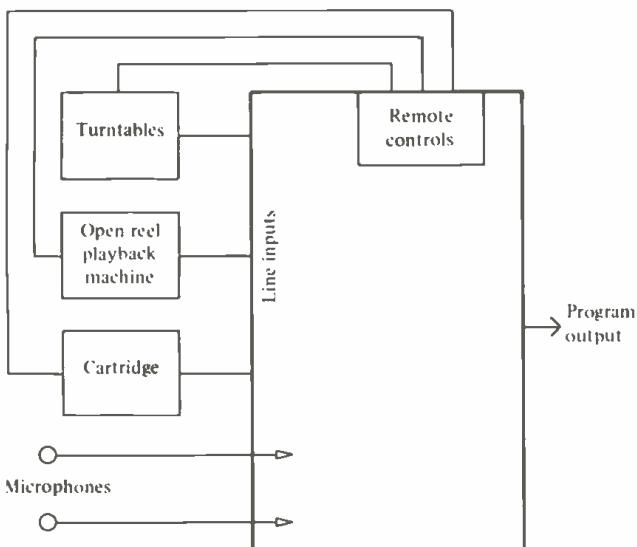

Figure 1. Block diagram of a typical manual operation.
In the manual operation, the console is basically a single-output summing amplifier. Remote start-and-stop controls are often a part of the console, as seen in FIGURE 1. Turntables, open reel playback machines, cartridge playback machines, and microphones feed the individual inputs of the board. The console operation opens and closes input faders and activates the sources by the remote control system on the board.
Figure 1. The three parts of the artificial microphone: a transformer, a resistive attenuator and a build-out network which restores the 150 ohm balanced impedance.
As shown in Figure 1, the device is, like Caesar's Gaul, divided into three parts. These are (1) a transformer; (2) a resistive attenuator; (3) a build-out network which restores the 150 ohm balanced impedance.